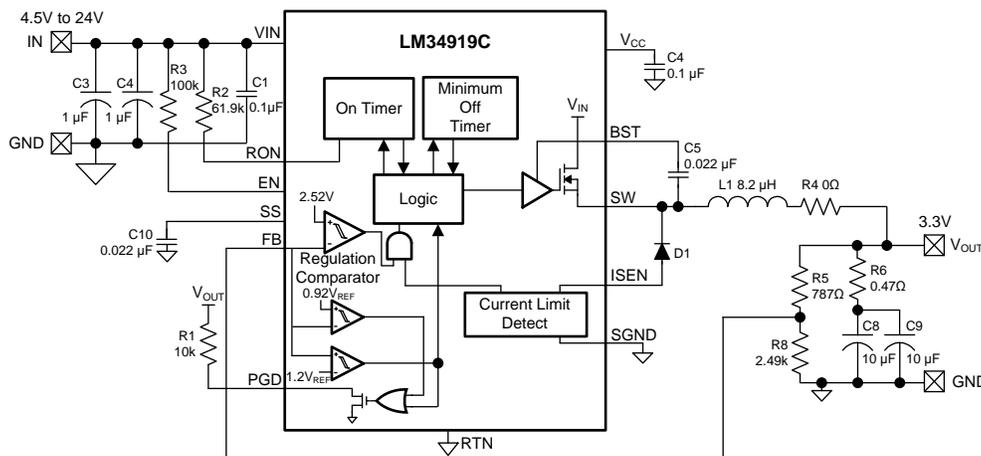

Figure 2. Lowest Cost Configuration
**Option A) Lowest Cost Configuration:** This evaluation board is supplied with R6 installed in series with the output capacitance (C8, C9). R6 is chosen to generate  $\geq 25$  mVp-p at  $V_{OUT}$ . Using  $0.47 \Omega$  for R6, the ripple at  $V_{OUT}$  ranges from  $\approx 38$  mVp-p to  $\approx 158$  mVp-p over the input voltage range. If the application can accept this ripple level, this is the most economical solution. The circuit is shown in Figure 2.